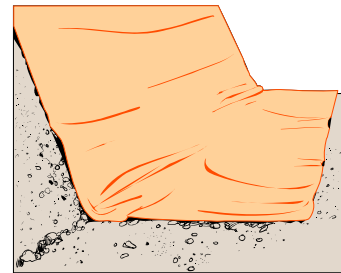

Figure 1 Geotextile Placement
- Install the specified geotextile separation layer in accordance with Manufacturer instructions. See Figure 1.